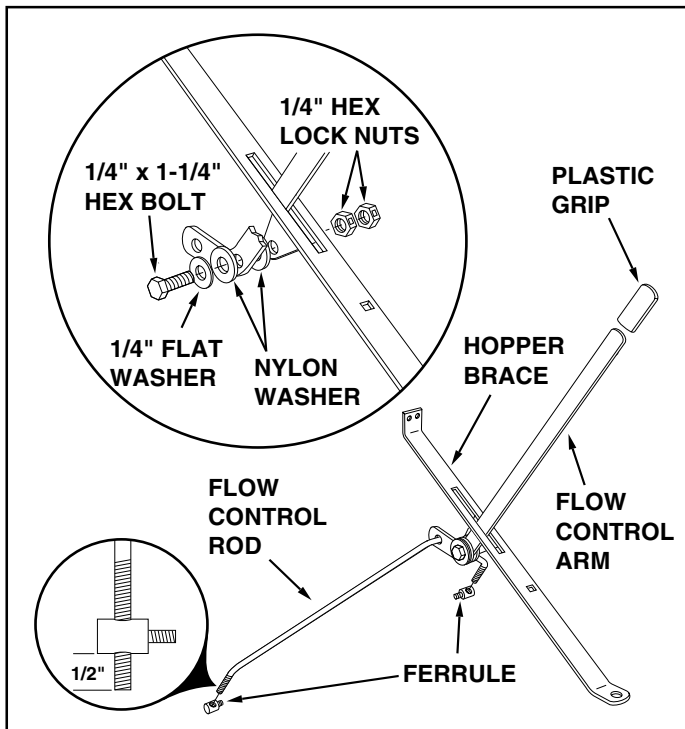

FIGURE 3
5. Assemble the plastic grip onto the end of the flow control arm as shown in figure 3.
6. Insert the flow control arm through the slot in the hopper brace. Place a nylon washer on each side of the arm and attach it to the brace's welded bracket using a 1/4" x 1-1/4" hex bolt, a 1/4" flat washer and two 1/4" hex lock nuts as shown in figure 3. **Tighten** the first hex lock nut until there is noticeable resistance when moving the flow control arm, then **tighten** the second hex lock nut.
7. Place the flow control rod through the hole at the end of the flow control arm. Assemble the two ferrules onto the threaded ends of the rod so that approximately 10 threads (1/2") of the rod extends through the ferrules. See figure 3.